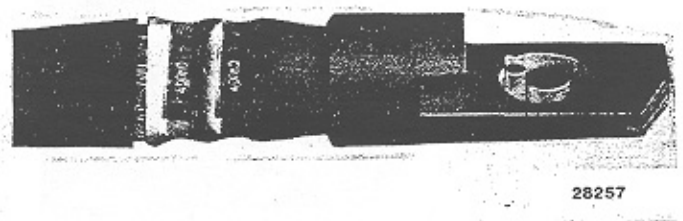

Fig. 42 - Properly Crimped Clasp Connector
7. Check clasp connector crimps. The thickness of the finished crimps should be between 15.04 and 15.67 mm (.592" - .617"). A properly crimped clasp connector is shown in Fig. 42.